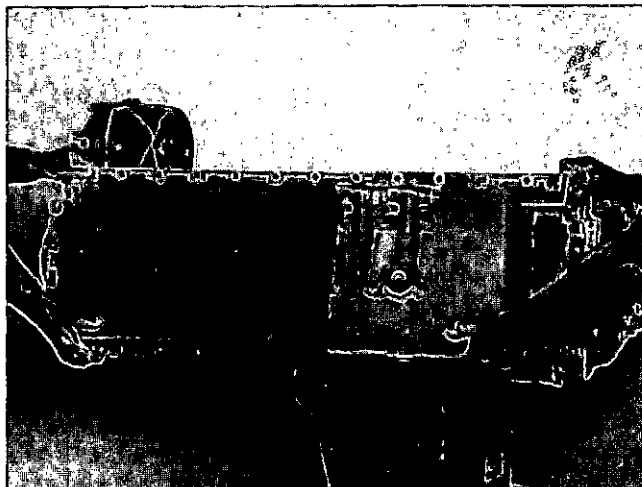

Fig. 0-51. Remove The Oil Pan.
3. Remove the oil pan and discard the gasket, Fig. 0-51.